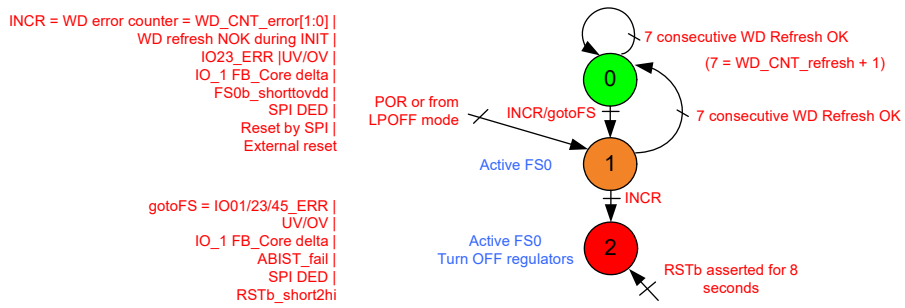

Figure 20. RSTB error counter(RSTb_err_FS = 1)
- RSTB_err_FS = 1 / Intermediate = 1; Final = 2 (Figure 20). When reset error counter reaches 2, the device goes into deep reset and fails.